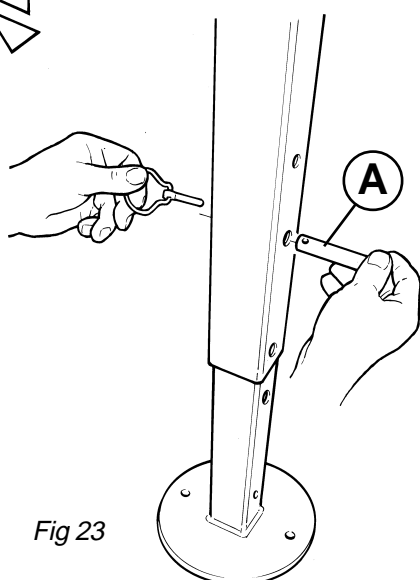

Fig 23
- Remove pins Fig 23.A, from telescopic legs and allow inner legs to drop to ground.